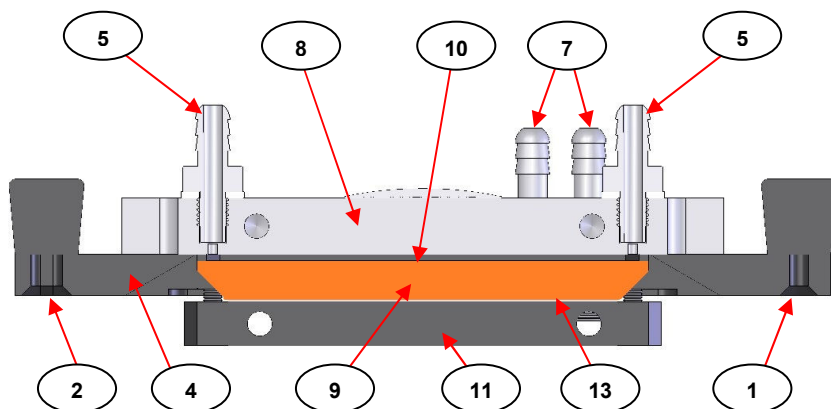

Fig 5. Cross Section Cutaway View Showing Internal Features of the Gateway™ ATR Thermostabilised Flow Through Top Plate
Connect the other ends of the clear silicone tubing that has been attached to the Thermostabilised Flow Through Top Plate sample ports (5) to a liquid sample supply and follow the instructions for operation of a liquid sample pumping system if this is being used to circulate the sample flow. The liquid sample passes through the Thermostabilised Flow Through Top Plate across the top surface of the ATR crystal (9) contained within, for 6 ATR reflection measurement events. (See Fig 5. for a cross section cutaway view of the Thermostabilised Flow Through Top Plate). There is an Isolast gasket (10) that seals between the ATR crystal (9) top surface and the underside of the upper thermocirculating plate (8) that creates the cavity for sample flow with a volume of 550 microlitres.